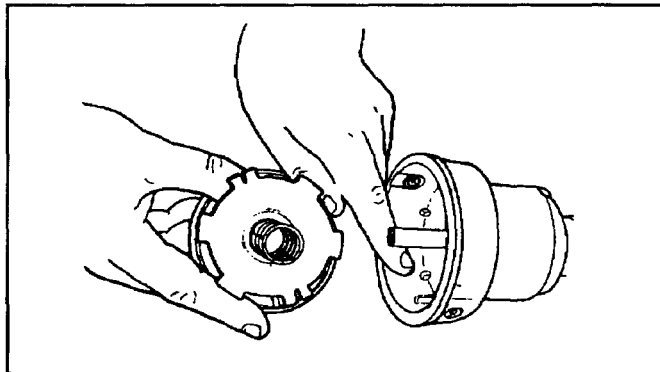

Fig. 14
5. Check the indexing teeth on the inner reel and outer spool for wear (Fig. 14).